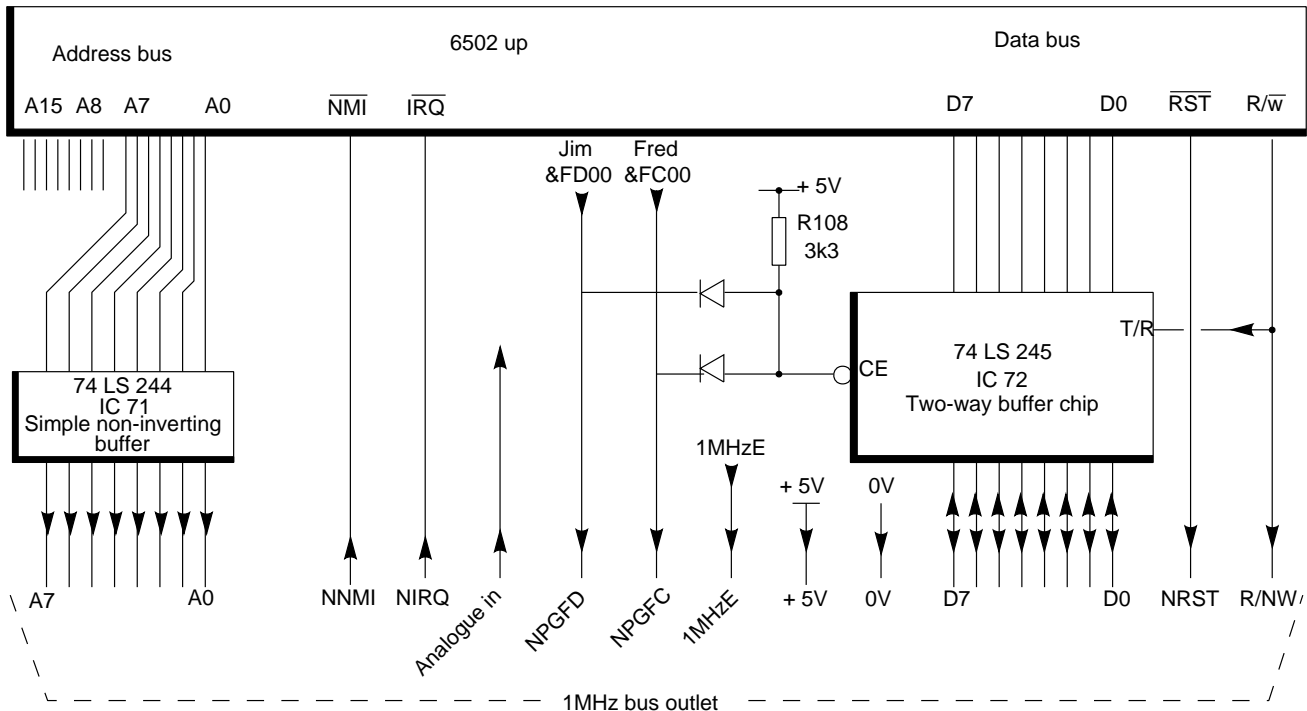
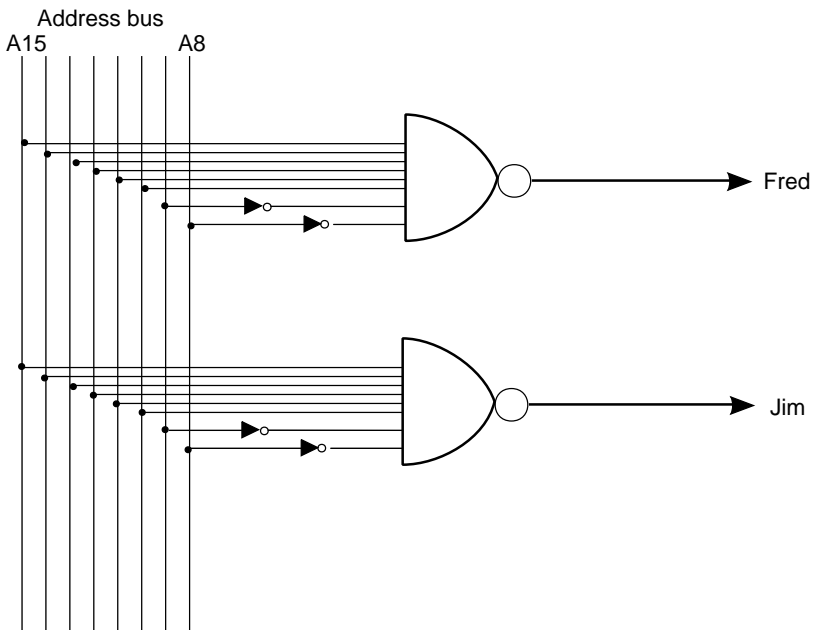

Figure 1.4. Simplified drawing of the 1 MHz bus.
Fig. 1.5. Decoder for producing Fred and Jim.
Page 503 of the User Guide gives a diagram of the connections to the 1 MHz bus. However, a scaled down version is shown in Fig. 1.4 which tends to emphasise the decoding problem.
The address and data buses are well-defined entities. By comparison, the control lines of any computer system always seem an unruly mess. Odd-looking single lines carrying funny labels appear to wander around different parts of the microcomputer in an undisciplined manner. The sheer complexity of the complete microcomputer wiring means that only parts of it can be shown at once. This means that some of the control lines appear to end abruptly, only to appear again on another diagram, apparently starting from nowhere! To assist bewilderment, some of the address wires may be used to 'control' and data wires may even be used for addressing purposes. There are no short-cuts to understanding, it's merely a case of methodical plodding through each control and gradually becoming accustomed to the strange-looking abbreviations. Referring to Fig. 1.4 again and dealing with the easier parts first:
discussions on FRED and JIM described them as particular pages (&FC and &FD) in memory. It now seems odd that single wires should have similar names. The answer is that the data lines D0 to D7 on the 1 MHz bus must only be activated when either of these pages are addressed - that is to say, only when the higher order pair of the hex digit addresses are FC or FD. Figure 1.4 gives no indication of the source of the FRED and JIM wires, but it is evident that they must somehow be fed from a decoder which senses when the higher order address lines (A8 to A15) carry the binary code corresponding to &FC or &FD. Full technical drawings of the BBC machine are difficult to obtain, so Fig. 1.5 is offered as one way the decoding might have been arranged.
Referring back to Fig. 1.4, the Jim and Fred lines are fed, via two diodes, to the chip enable (CE) pin on the two-way data buffer. Note that this pin has a tiny 'bubble' at the input which is a standard symbol indicating that reverse logic is required. (This explains why a NAND instead of an AND gate was
used in Fig. 1.5.) Thus, the data bus is only routed to the 1 MHz bus when the chip is enabled by prior selection of Fred or Jim.